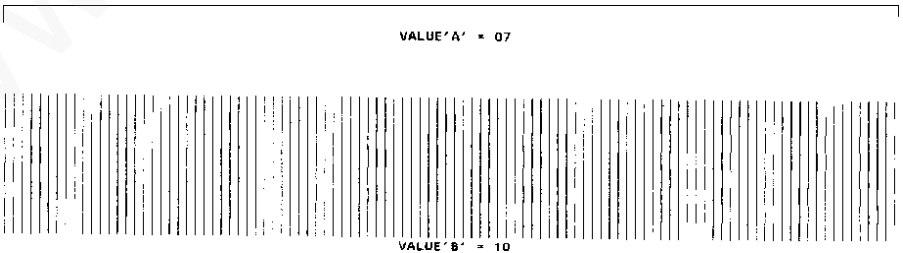

Fig. 6-2
<ul style="list-style-type: none">- identify the best vertical alignment from the ten shown on the test chart- enter the number corresponding to the best alignment using the left and right arrow keys; note that an intermediate value, which is not printed on the test chart, may be selected as the best alignment, there are therefore 20 values available (0-19)- press ▶: the test chart in fig. 6-2 showing both the margin alignment (the example shows VALUE 'A' = 07) and the vertical alignment (the example shows VALUE 'B' = 11) is printed out.
c) Place an A4-size blank sheet of paper in the ASF and then press ◊: the same line is printed on both top and bottom of sheet as in the case of the alignment test (fig. 6-2): <div></div>	<div>ASF TEST ⊗</div>